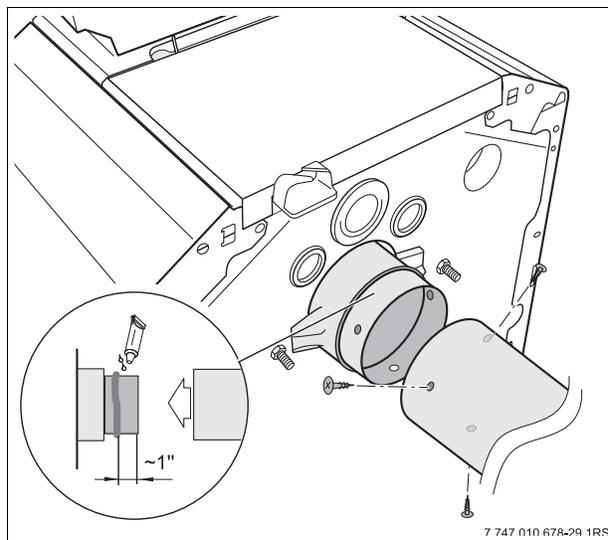

Fig. 19 Boiler exhaust pipe
- Apply a ¼" wide bead of high temperature silicone (500°F rated silicone, G.E. 106 or equivalent) all around the boiler vent connection (breach) 1" from the end (→ Fig. 19, page 26).